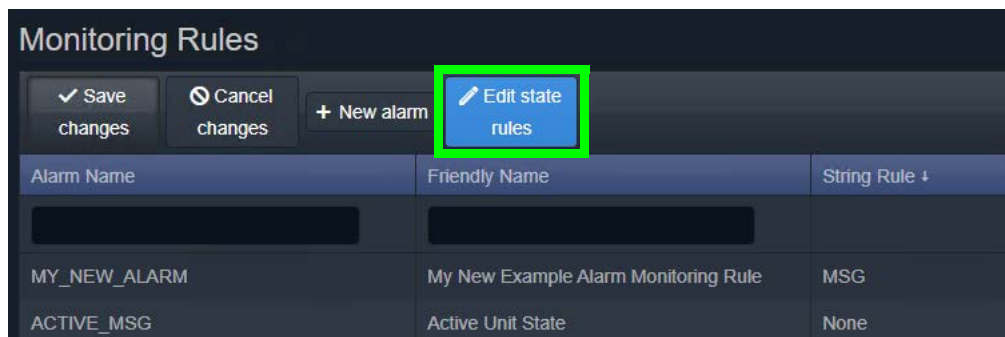
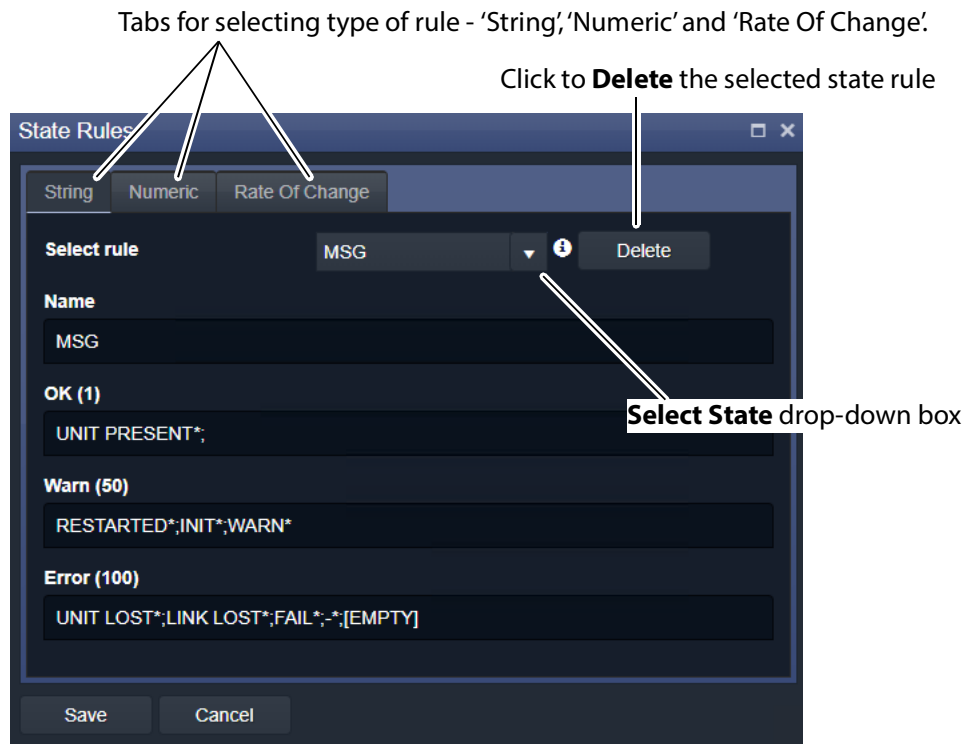

Figure 65: Edit State Rules Button
Figure 66: State Rules Dialog
- 1 Click **Edit State Rules** in the **Monitoring Rules** configuration screen, see Figure 65. The **State Rules** dialog is shown, see Figure 66.